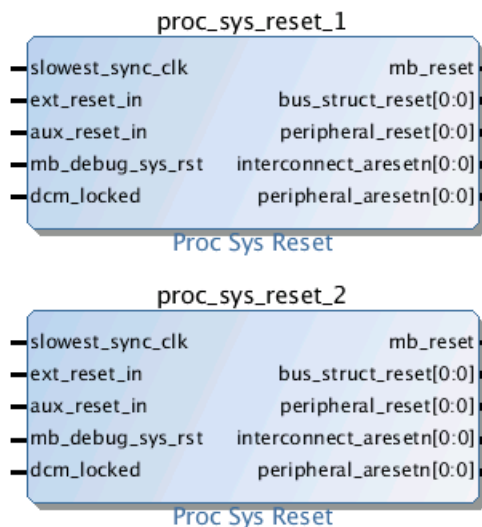

Figure 51: `proc_sys_reset_1` and `proc_sys_reset_2` in Block Diagram
3. Copy (**Ctrl+C**) `proc_sys_reset_1`, and then paste (**Ctrl+V**) the IP block to copy it as `proc_sys_reset_2` (Figure 51).